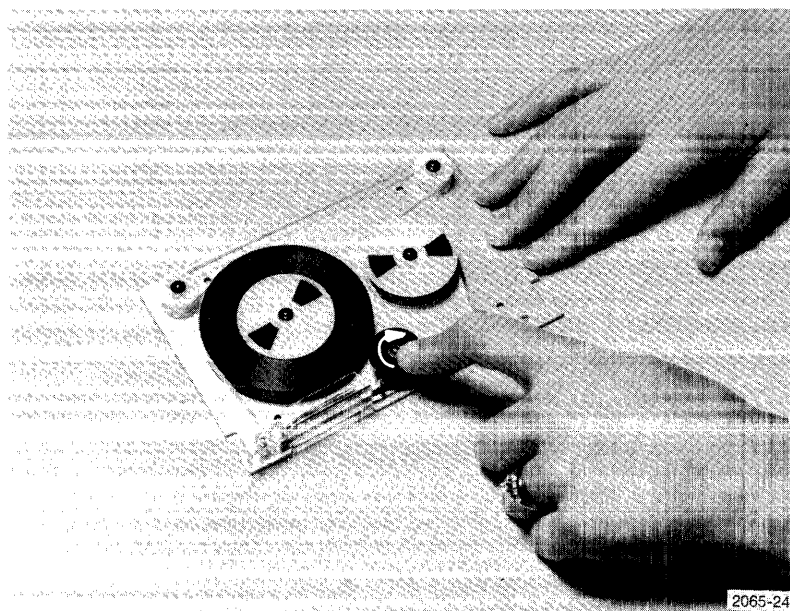

Fig. 3-6. Winding the tape.
5. Hold the loose end of the tape against the spool, and continue to rotate until the loose end passes under the continuing length of tape, then continue to rotate for a few more turns, until the first set of sensing holes are reached (Fig. 3-6). Make certain that these first windings stay evenly within the spool edges.